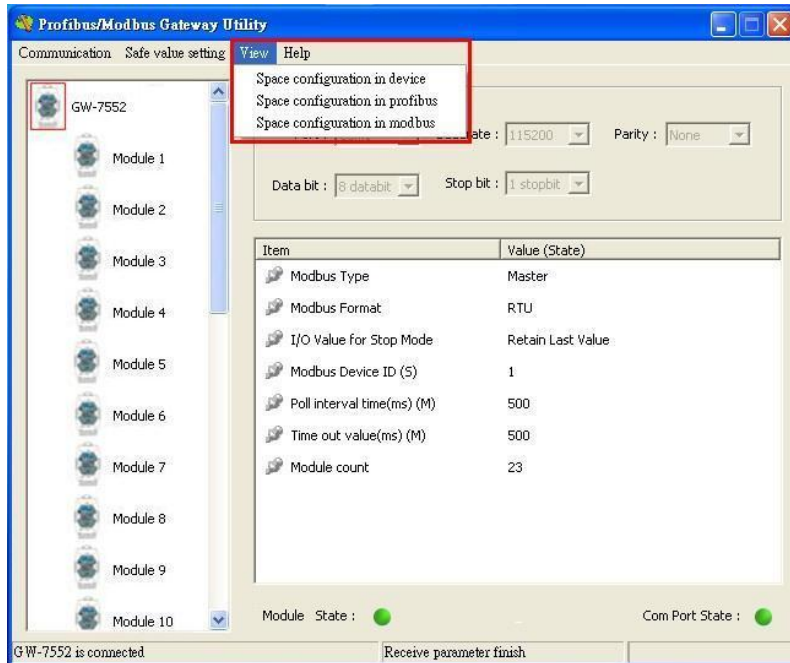

Figure 56 The menu of space configuration
There are 3 kinds of memory address configuration. They are (1)Space configuration in device 、(2) Space configuration in profibus 、(3)Space configuration in modbus, as shown in *figure 56*.